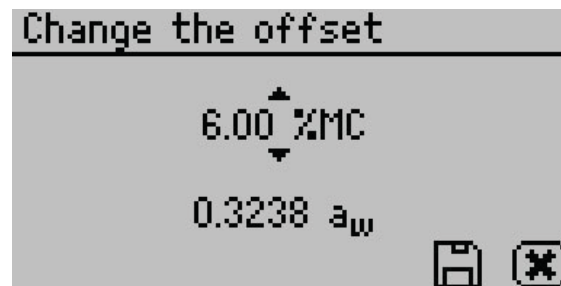

Figure 13 Adjust the moisture content value to match the reference method
17. Adjust the moisture content value using **UP** and **DOWN** until it matches the average moisture content value obtained from the reference method in step 5 (Figure 13).